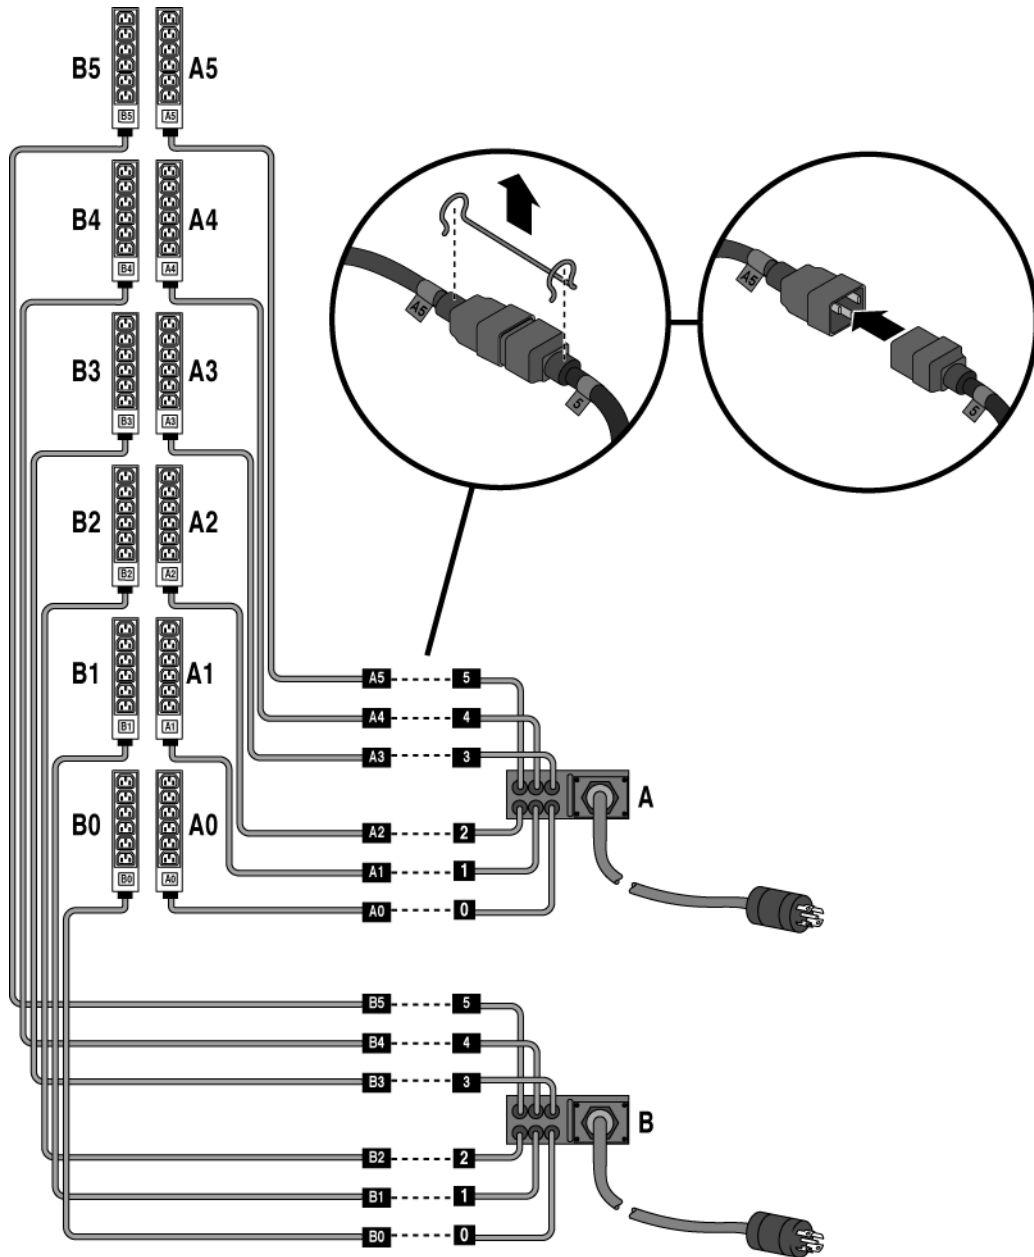

FIGURE 2-12 Disconnecting the Cables from the MPS Pig Tail Cables
1. Remove the retaining clips from all the cable connections (FIGURE 2-12).
2. Disconnect the power strip cables from the PDM cable connectors (FIGURE 2-12).